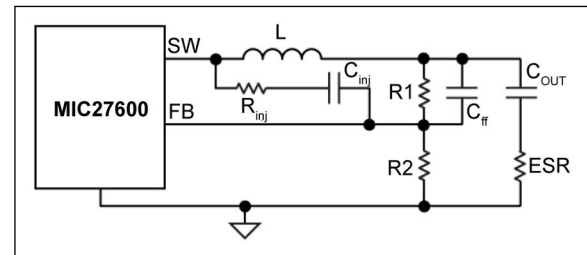

FIGURE 5-3: Invisible Ripple at FB.
In this situation, the output voltage ripple is less than 20 mV. Therefore, additional ripple is injected into the FB pin from the switching node (SW) via a resistor (R_{inj}) and a capacitor (C_{inj}), as shown in Figure 5-3.